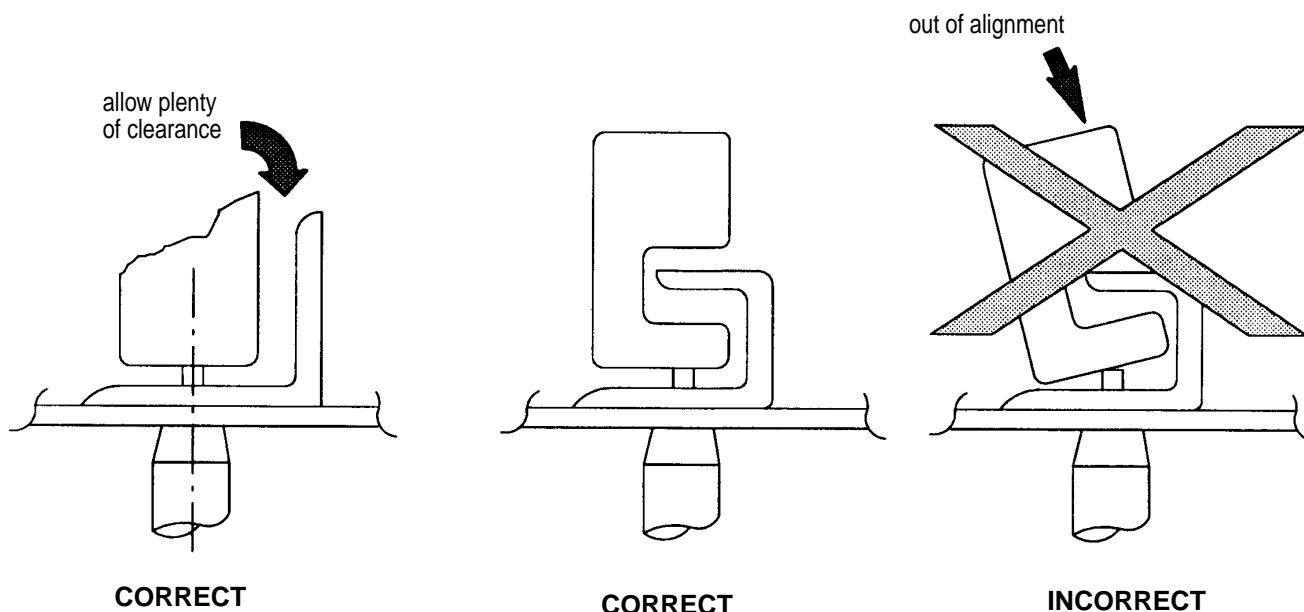

Figure 4 - Using the Bucking Bar
- Step 3. Select the appropriate bucking bar that can be used for bucking as many rivets as possible in the group of rivets to be driven. Bucking bars are available in various shapes, sizes and weight. The weight and the shape of the bucking bar has an important bearing on the quality of the driven rivets. Hold the bucking bar so that it rests squarely against the end of the rivet shank and its corners will not touch the aircraft structure (see Figure 4). Ensure that the bucking bar selected is clean and polished free of any marks, scratches or other defects which could cause damage to the rivet or skin surfaces.